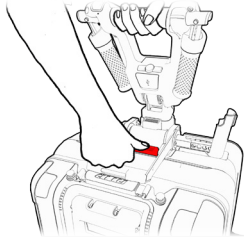

Figure 44
3. Hold the handle bar with one hand and press the central release button with the second hand until it clicks (see Figure 44).